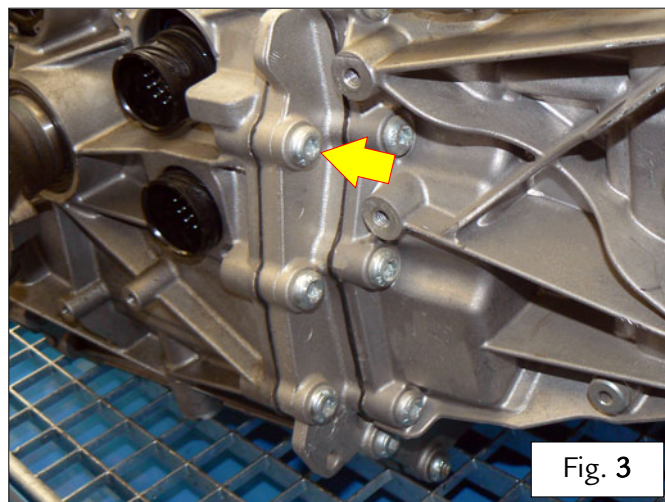

Fig. 3
- On the left hand side of the DCT gearbox, undo and remove the indicated screw – Fig. 3.
- Remove the indicated screws fastening the adapter – Fig. 3.